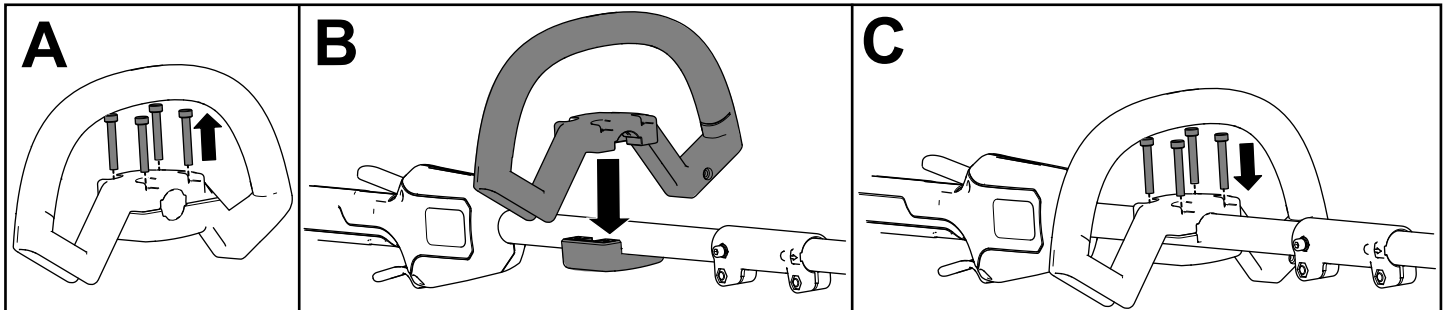

Figure 5
1. Separate the auxiliary handle from the handle plate by removing the 4 socket head screws using the provided Allen wrench (A of Figure 5).
2. Line up the auxiliary handle with auxiliary handle plate on the trimmer handle (B of Figure 5).
3. Secure the auxiliary handle to the handle plate with the 4 socket head screws previously removed (C of Figure 5).
3. Secure the guard onto the base of the trimmer with the 2 socket head screws, 2 washers, and 2 spacers previously removed (C of Figure 5).